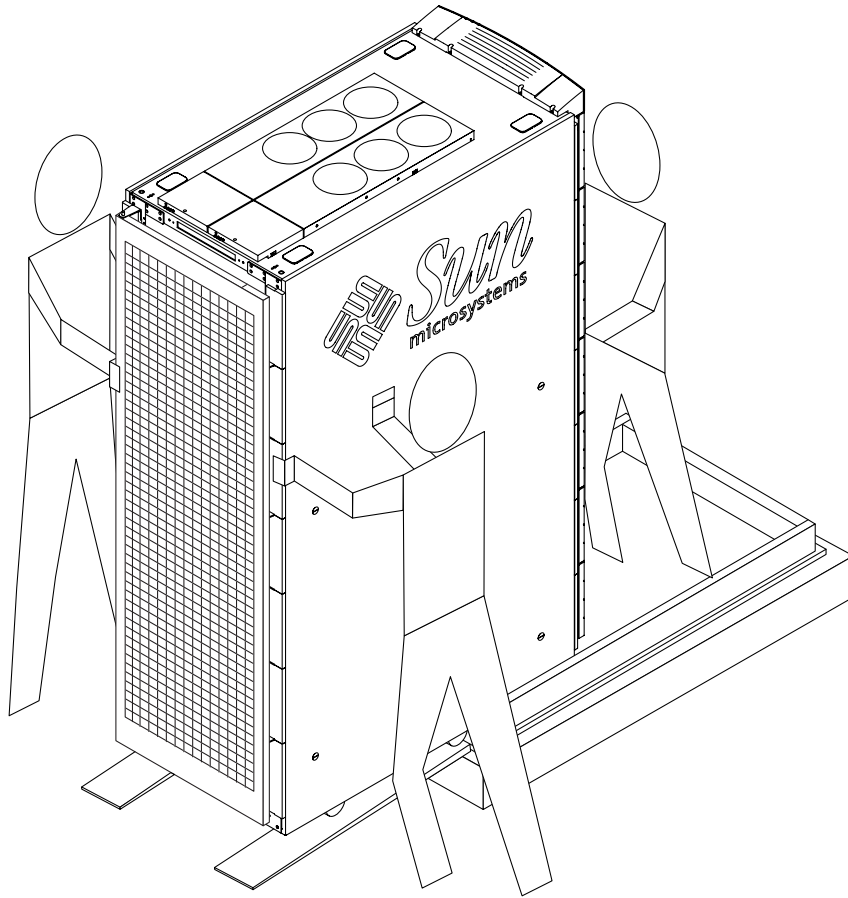

FIGURE 2-3 Moving the Sun Fire E6900 System off the Shipping Pallet
9. Move the system carefully down the ramps (FIGURE 2-3).